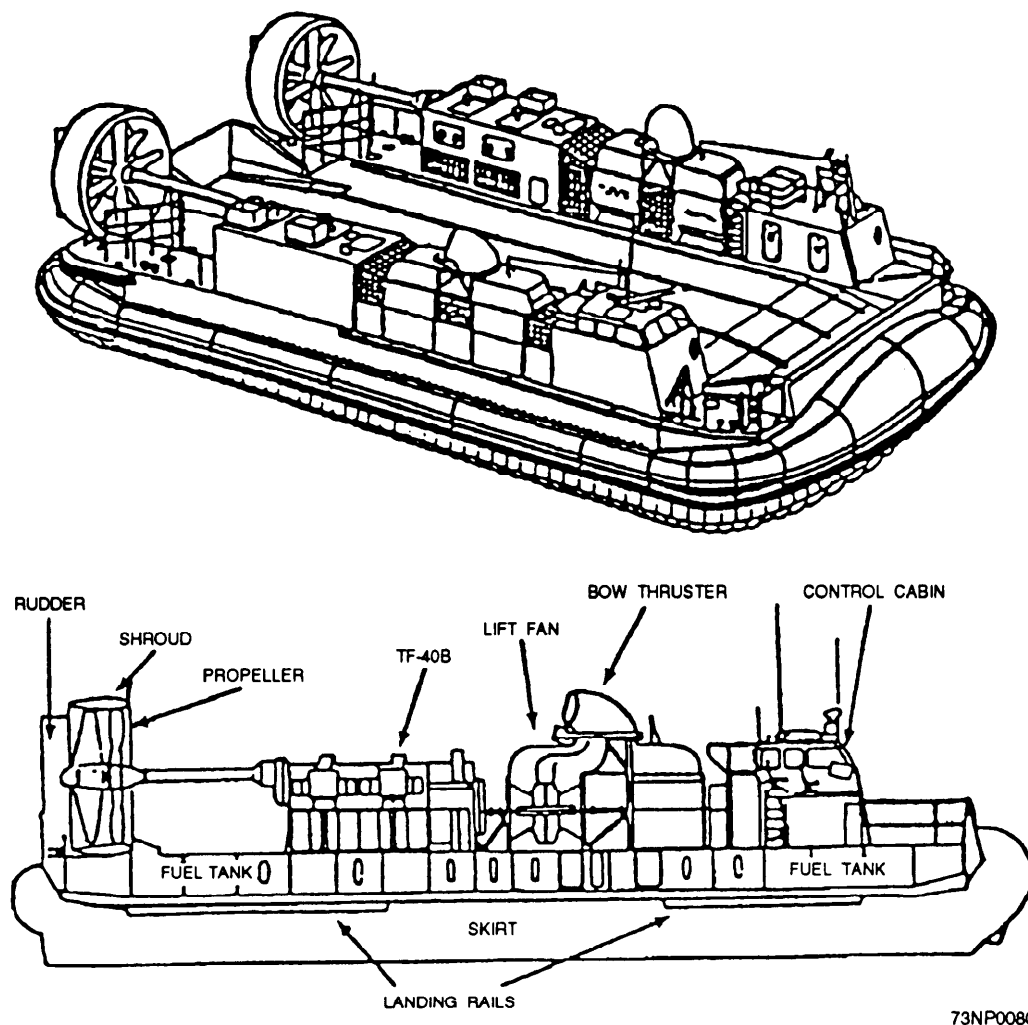

Figure 13-3.—Landing craft, air cushion (LCAC).
- LANDING CRAFT, AIR CUSHION (LCAC)—The LCAC is a fully amphibious, air-cushion vehicle capable of operating from an exiting well deck ship. Its mission is to transport weapons systems, equipment, cargo, and personnel of the assault elements of the Marine Air/Ground Task Force both from ship-to-shore and across the beach. Figure 13-3 is a picture of an LCAC.